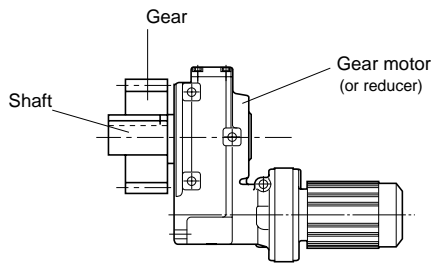
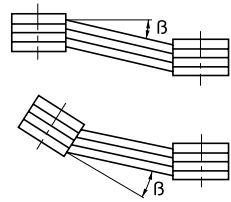

Fig.6
Fig.7
(2) When chain sprocket and gear are used
- Install sprocket and gears so that their point of load application will be closer to the gearmotor or reducer side with respect to the length of the shaft. (Fig.6)
(3) When V-belt is used
- The parallelism and eccentricity (β) between two pulleys should be within 20'. (Fig.7)